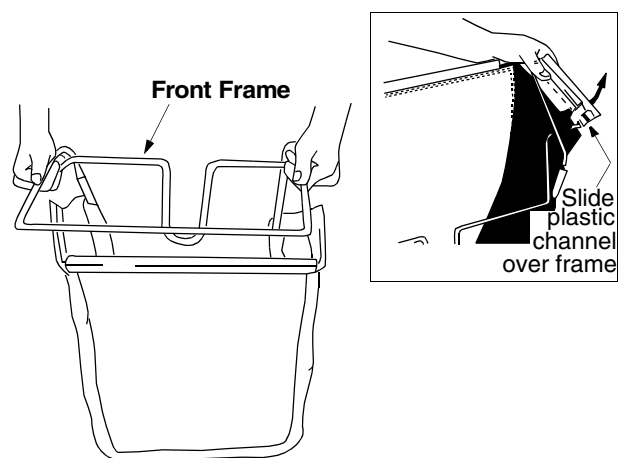

Figure 7
- Slide the ends of the front frame assembly into the ends of the rear frame as shown in Figure 7. The handle in front frame assembly goes away from the black plastic bottom of the bag. Push the two frames together until the cross piece on the front frame contacts the rear frame.
- Slip the openings in the side of the plastic channel on bag over hooks on the grass catcher frame. See Figure 7 inset.
- Secure front of bag to front frame by working the five plastic channels on bottom, sides and top of bag over frame. See Figure 7 inset.